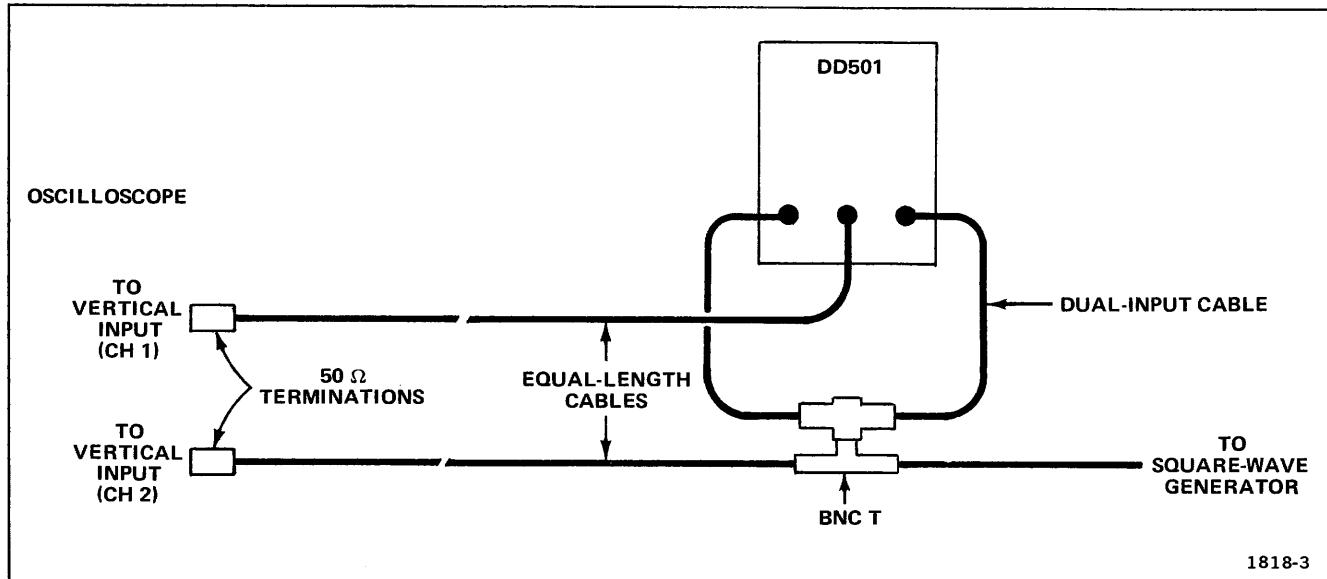

Fig. 5-1. Throughput time test setup.
- a. Connect equipment as shown in Fig. 5-1.